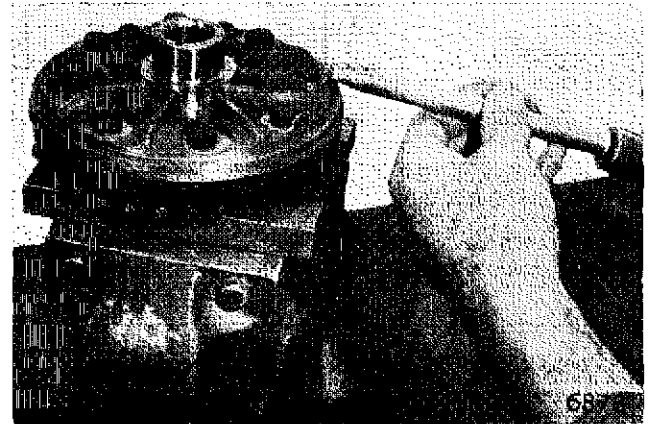

Fig. 41. Locking crown wheel bolts
The crown wheel bolts are locked by special domed eccentric washers (21). (See Fig. 41.)
Tighten the bolts to the torque figure given in General Data and tab the washers as shown in Fig. 41.